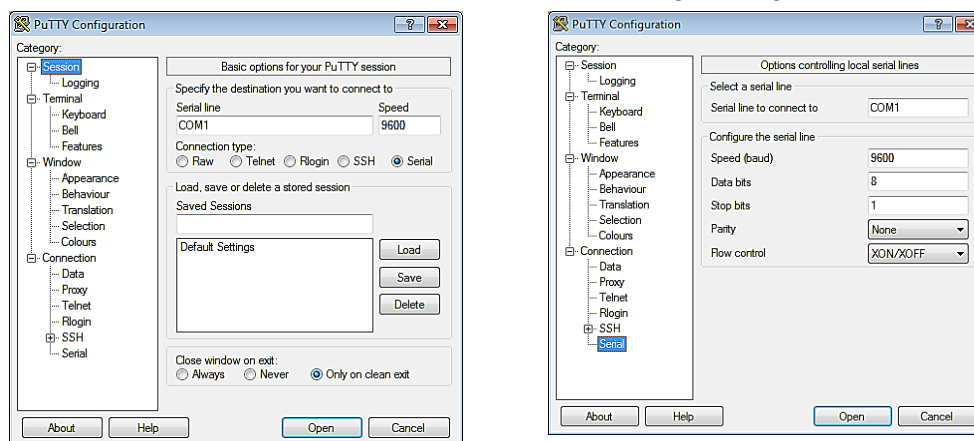

Figure 9-1: PuTTY GUI: Basic Serial Session (L) and Serial Options (R)
To use **PuTTY** to logon to a remote machine, bring up the PuTTY application by double-clicking its icon. You will see the main window as shown in left image of Figure 9-1.
To create a Serial connection, click the radio button labeled Serial. The Serial line and Speed fields will then be automatically filled in as shown in *left* image of Figure 9-1, but will allow you to specify the serial line to use (if your computer has more than one) and what speed (baud rate) to use when transferring data. For further configuration options (data bits, stop bits, parity, flow
control), you can use the Serial Configuration panel (*right* image in Figure 9-1) by selecting “Serial” in the left navigation pane.
So that you don't have to enter this information every time you wish to connect to your server, you can save this configuration by typing an appropriate *name* in the Saved Sessions text box in the PuTTY “Basic Options” window (left image of Figure 9-1) and then clicking the Save button. In the future, you can select the *name* you chose in the list box and click the Load button to initialize this particular configuration.
2. At the bottom of the Basic Options dialog box (left image of Figure 9-1) in the section titled: **Close window on exit**, select the **Never** radio button. This will keep the window open after the command has finished executing so that you can see any results in the terminal window.